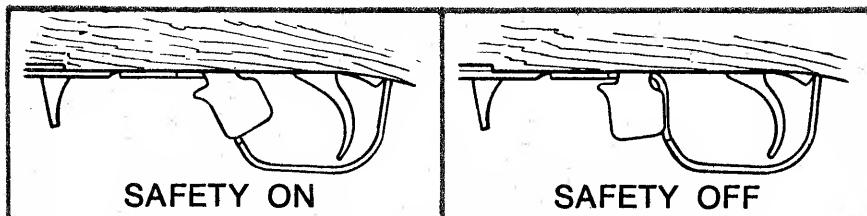

Figure 4. Safety Mechanism
a. SAFETY MECHANISM—The manual safety mechanism is located forward of the trigger as illustrated in Figure 4. The safety can be moved to its “ON” position only when the hammer is cocked. When the safety is “ON”, it blocks both the hammer and sear. Although the safety mechanism of the AC-556 and AC-556K selective fire rifles is correctly designed and fitted, the user should never depend on it, or any other mechanical device to justify careless handling or pointing the rifle in an unsafe direction.
4. When you are ready to fire the rifle, move the safety to the "OFF" position (forward) (See Figure 4).
6. To unload the rifle, place the safety in its "ON" position (see Figure 4), remove the magazine and pull the slide handle all the way to the rear, extracting and ejecting the cartridge in the chamber.
5. When you are ready to fire the rifle, move the safety to the "OFF" position (forward) (see Figure 4).
8. Place the Safety in its "ON" position (See Figure 4.)